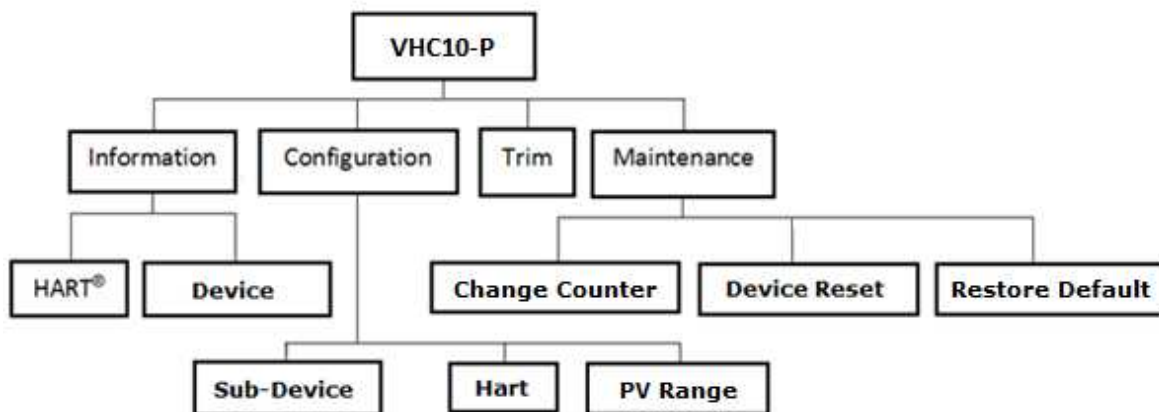

Figure 3.3 – VHC10-P programming tree.
The programming tree is a tree-like structure with a menu of all available software features, as shown in the figure. 3.3.
The following figures show some of the VHC10-P DTM screens using the Vivace VCI10-UH interface with PACTware®. Note that the directory with menus available for the DTM (*OnLine Parameterize*) follows the format of the configuration tree displayed in the item 3.4 (figure 3.3).